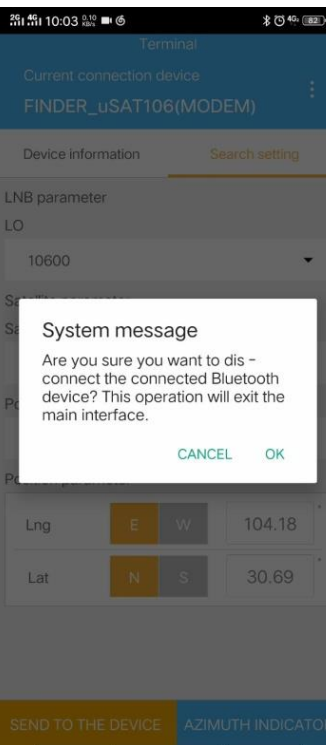

Figure 7-16
8. If you need to disconnect, click the three dots on the upper right corner and select "Disconnect device", then click the "Ok", as shown in Figure 7-16.